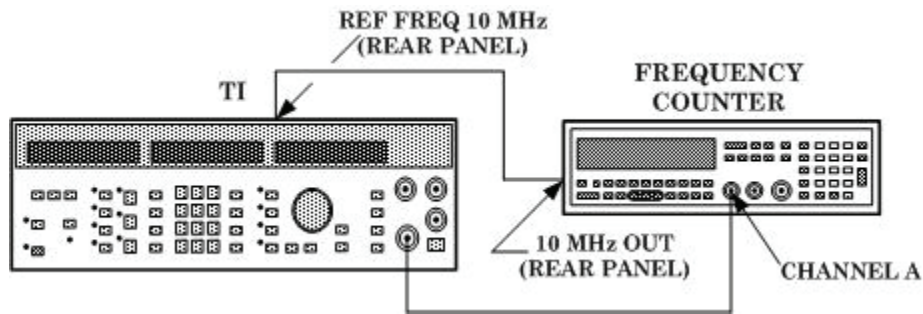

Figure 3. Frequency accuracy.
- (1) Connect equipment as shown in figure 3 below: